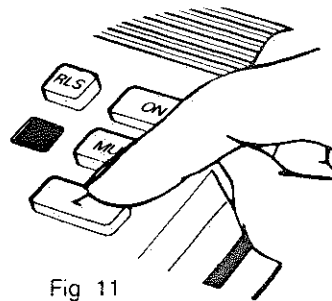

Fig. 11
7. **LINK Button.** This button (L), located below the Mute button (Fig. 11), is pre-programmed to provide a timed line break (400-600 ms). Operating this button allows access to telephone company custom calling features or PBX features if provided.